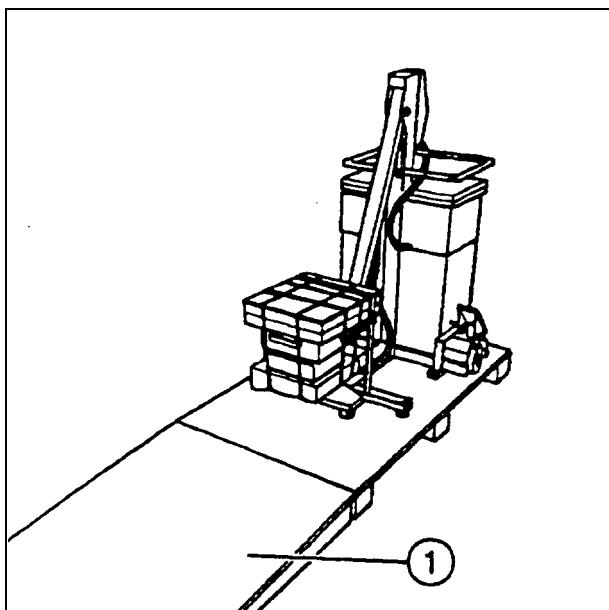

Fig. 1
- Place the side wall with the integrated ramp (1/Fig. 1) in front of the pallet and hook in the fastening straps.